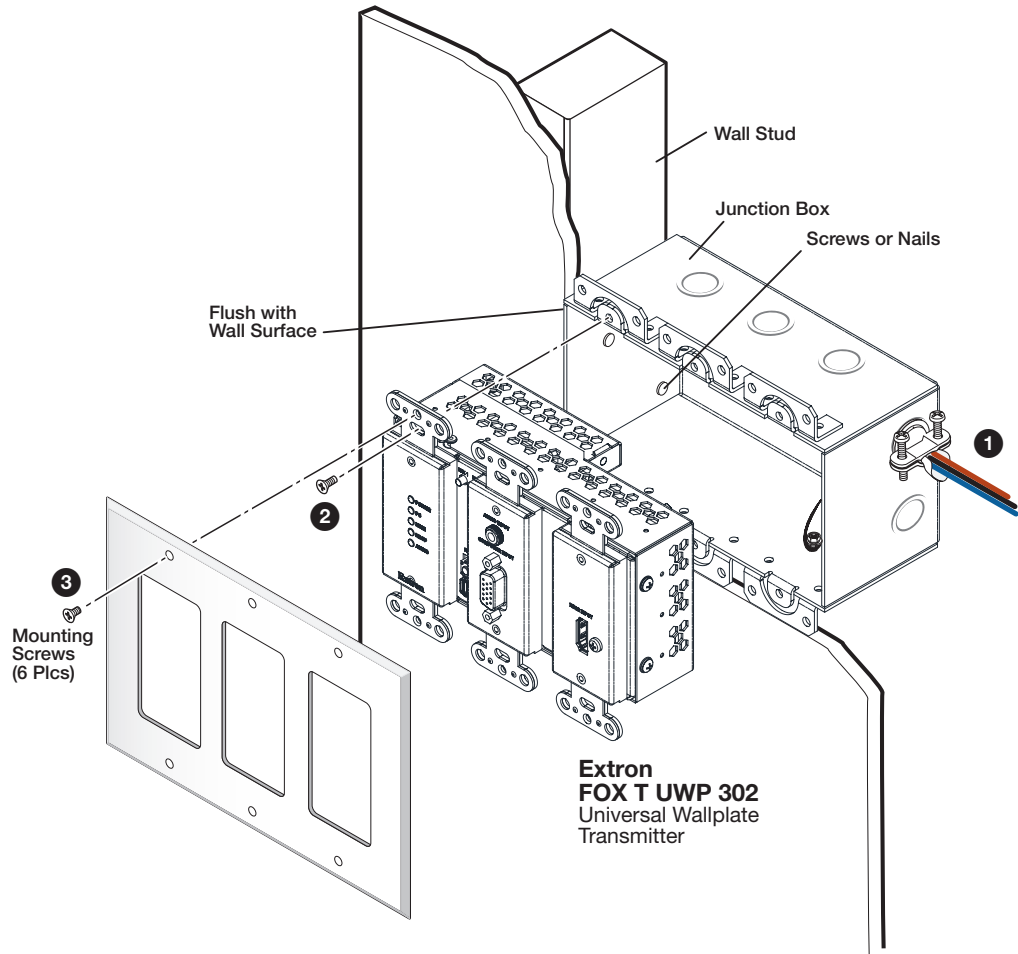

Figure 6. Mounting the FOX T UWP 302 Into a Junction Box
2. Run the cables through the junction box (see figure 6, ①).
5. Secure the FOX T UWP 302 enclosure to the box using three of the provided screws into the slots at the top and bottom of the device (see **figure 6, 2** on the previous page).
6. Fasten the Decora wallplate onto the enclosure using six of the provided screws in the holes at the top and bottom (see figure 6, **3**).